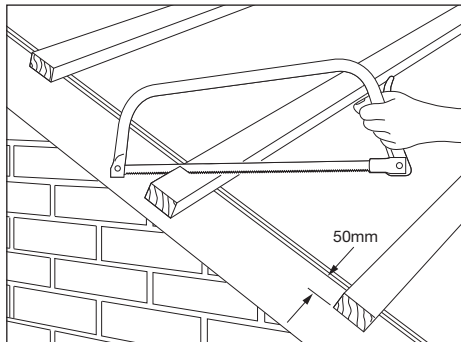

Fig. 1 – Position top course tiling battens
- 2 Saw tiling battens off square to overhang bargeboard or brickwork by 50mm and nail within a maximum of 500mm from ends (Fig. 1).